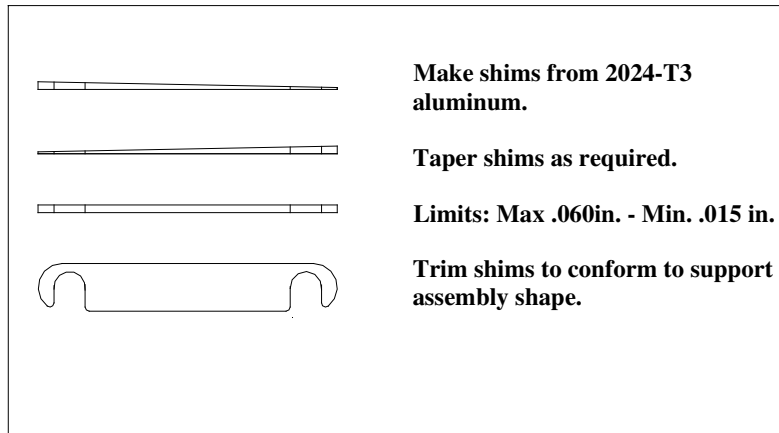

Fig. SB-106-4 Shim Specifications
- 1.5 If the alignment is good, proceed to section 2. If not, place shims under the bearing supports (108-3 & 108-4) to achieve a good alignment. See fig. SB-106-4 for shim dimensions and thickness.
- 2.5 If the alignment is good, proceed to section 3. If not place shims under the bearing supports (108-4 thru 108-8) to achieve a good alignment. See fig. SB-106-4 for shim dimensions and thickness.